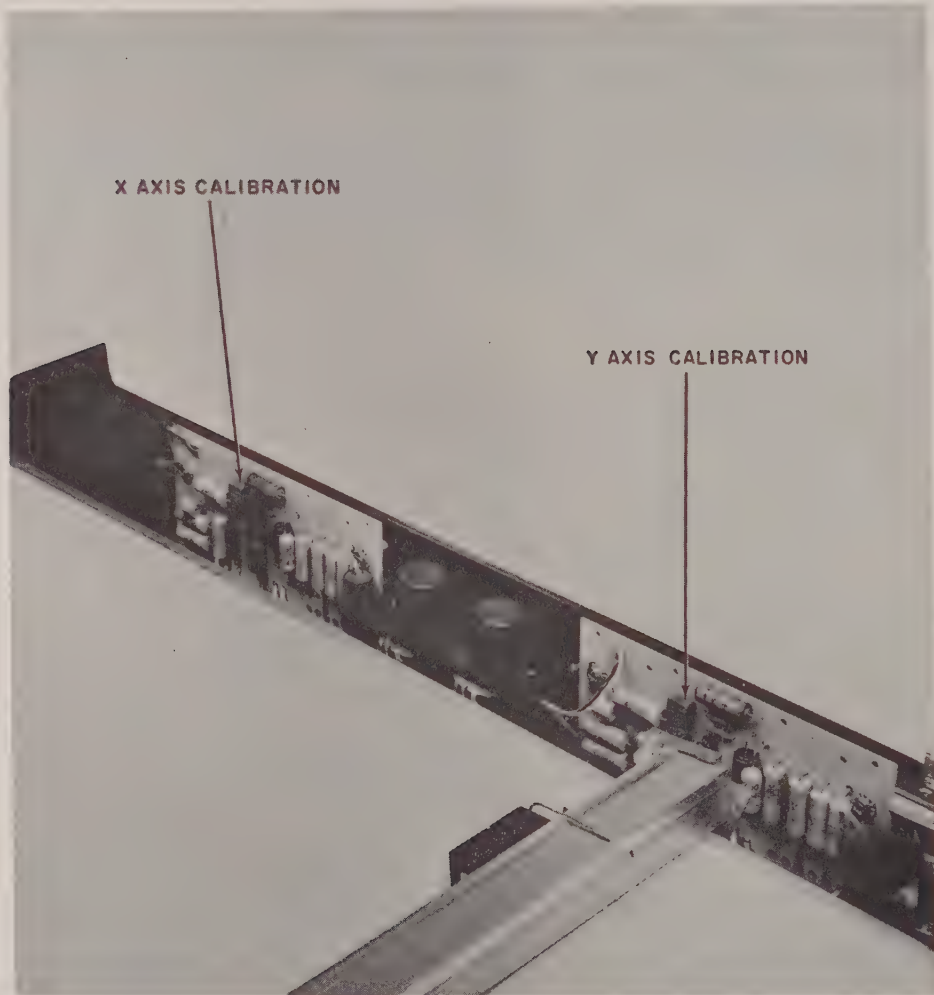

Figure 1. X (Arm) Axis Calibration Control, Typical
4. If required, adjust the X axis calibration control. See Figure 1.